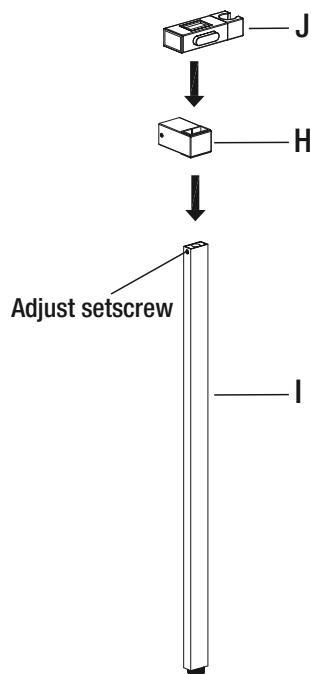

Fig.6
- Slide the bottom bracket (H) and the hand shower holder (J) onto the top of the slider arm (I) as shown in figure 6. You may need to adjust the set screws of the slider arm (I) to do so.